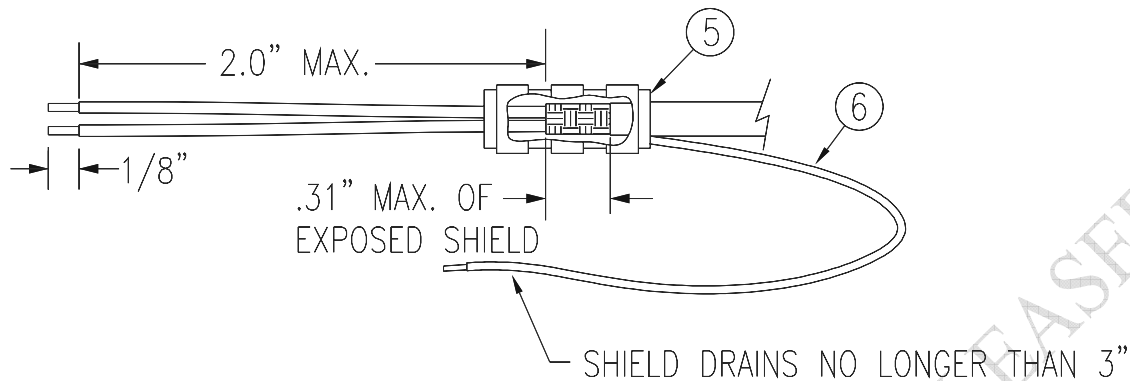

Figure 2-10. Shielded Cable Preparation
3. Connect a 20 or 22 AWG wire (6) to the exposed shield of the prepared cable assembly. (See Figure 2-10). Note: AC 43.13 may be a helpful reference for termination techniques.